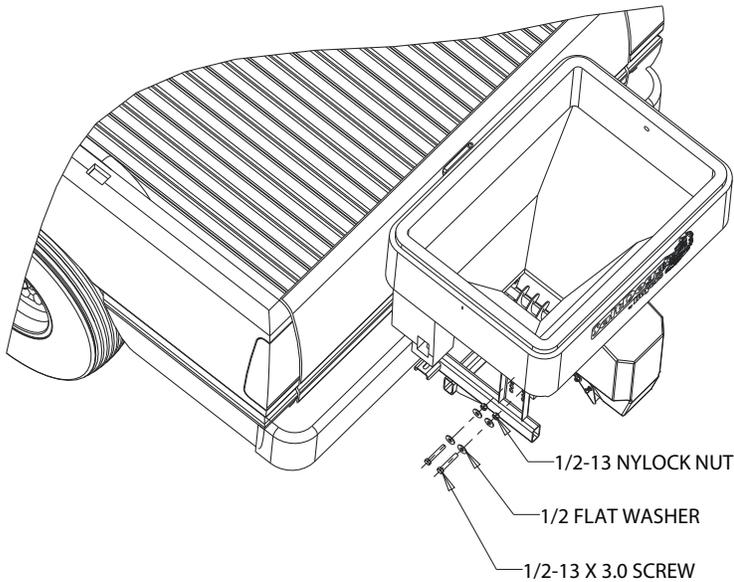

Fig. 3
3. Align holes in rear portion of the hopper with slots in frame uprights. Use slots which will position spreader with a slight upward tilt. Secure hopper assembly to frame using 1/2-13 x 3.0 screws, flat washers and nuts. Fig.3. Do not tighten fasteners at this time. **Apply Antiseize on all stainless steel fasteners to avoid galling!**